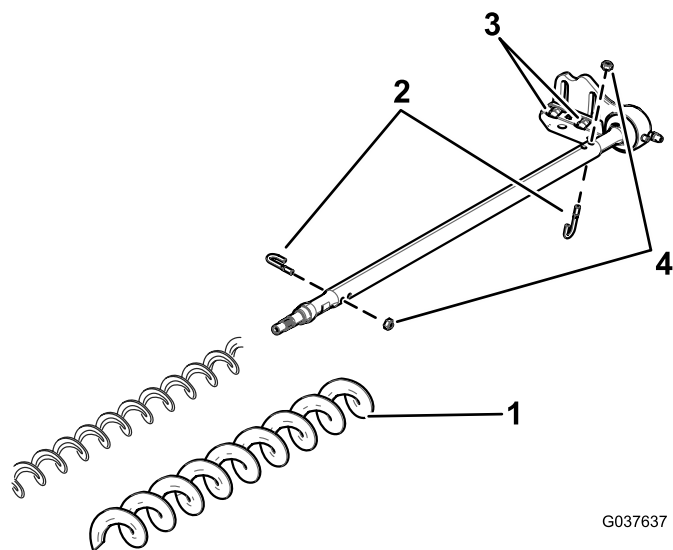

Figure 18
8. Torque the J-bolt locknuts to 2 to 3 N·m (20 to 25 in-lb); refer to Figure 18.